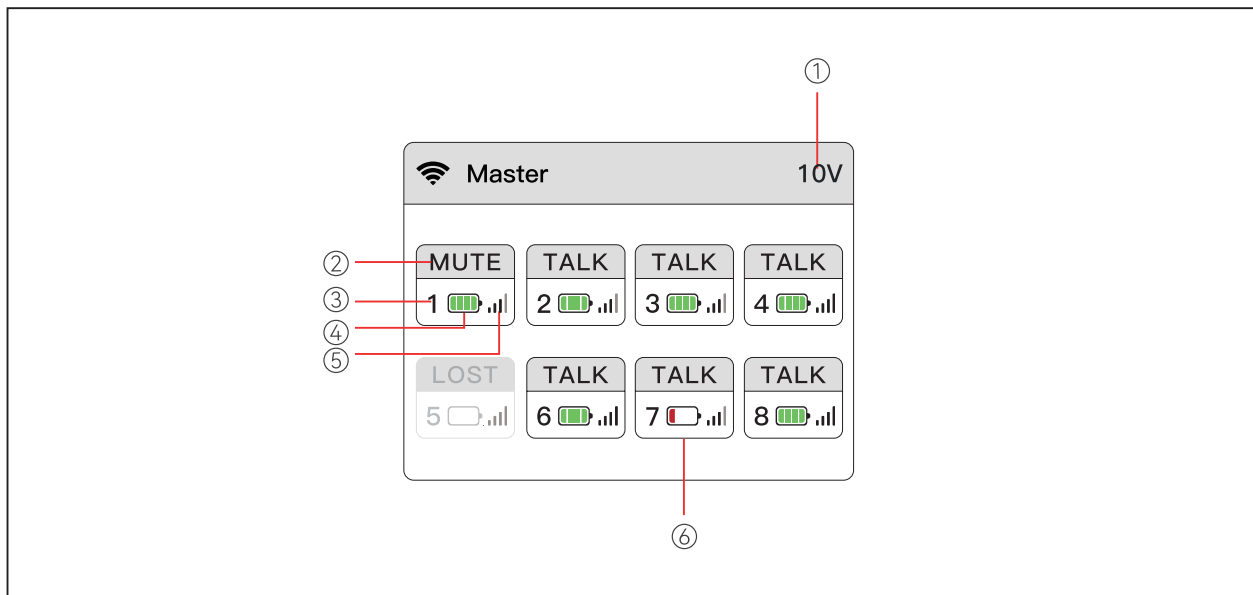

Figure 4
5. Enter the menu interface on base station C and select **4 Wire > Line Sequence Switching > Cross**. (See Figure 4)